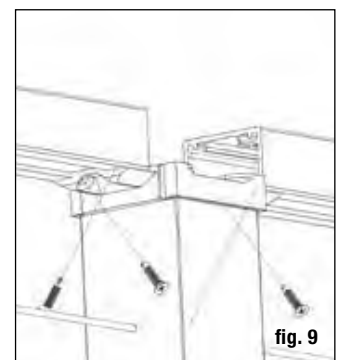

fig. 9
**Step 10** Position the rail between the posts. Check for level end-to-end and vertically. Attach brackets to the post at one end. Repeat for the other end. *Tip: Use a driver extension bit to avoid marring the rail with the drill chuck. Install all rails prior to installing cable.* (fig. 9) Predrill rail using a 7/64" drill bit.
**Step 10** Position the rail between the posts. Check for level end-to-end and vertically. Attach brackets to the post at one end. Predrill rail using a 7/64" drill bit. Repeat for the other end. *Tip: Use a driver extension bit to avoid marring the rail with the drill chuck. Install all rails prior to installing cable.* (fig. 9)